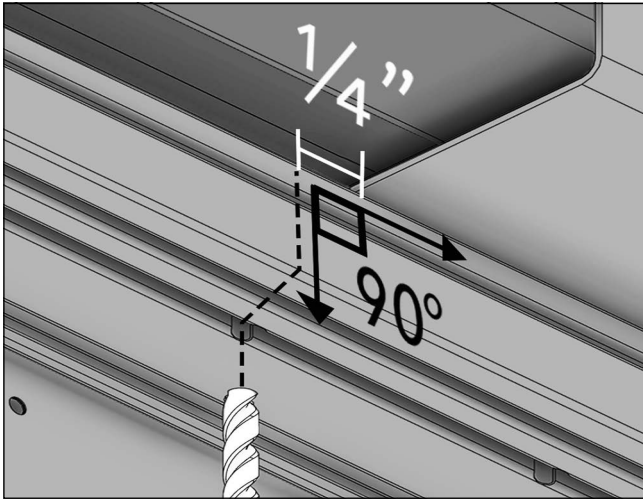
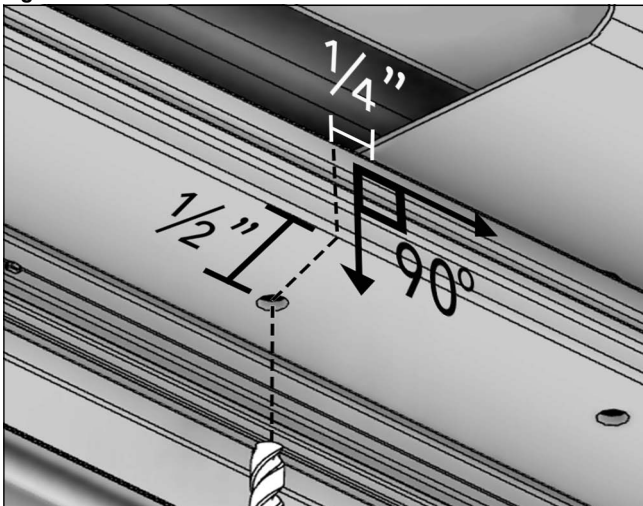

Figure 21 Casement
Figure 22 Direct Glaze
3. Once the interior cover(s) are removed, measure 1/4" off the edges of the gusset. See Figure 21 and Figure 22.